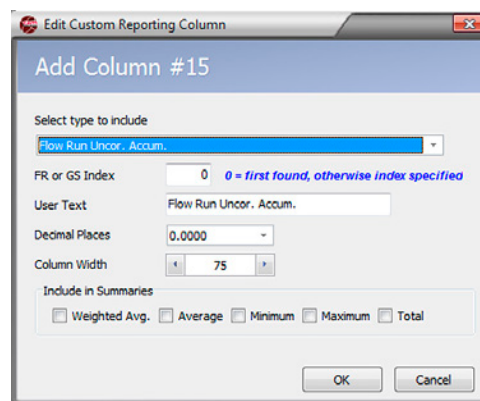

Figure 4.13—Add Column dialog
- a. Click the **Add Column** button at the right of the data grid. The *Add Column* dialog (Figure 4.13, page 54) will appear.